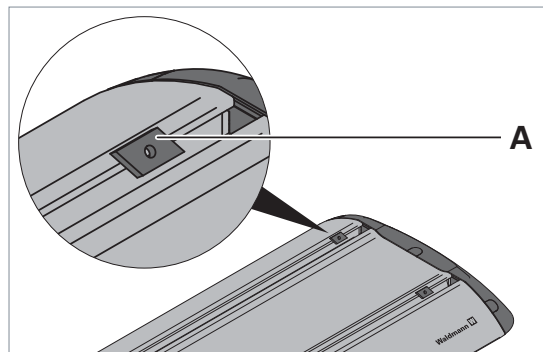

Fig. 5: Inserting the slide nuts.
- Insert the four enclosed slide nuts **A** into the T-slots of the luminaire, see Fig. 5.